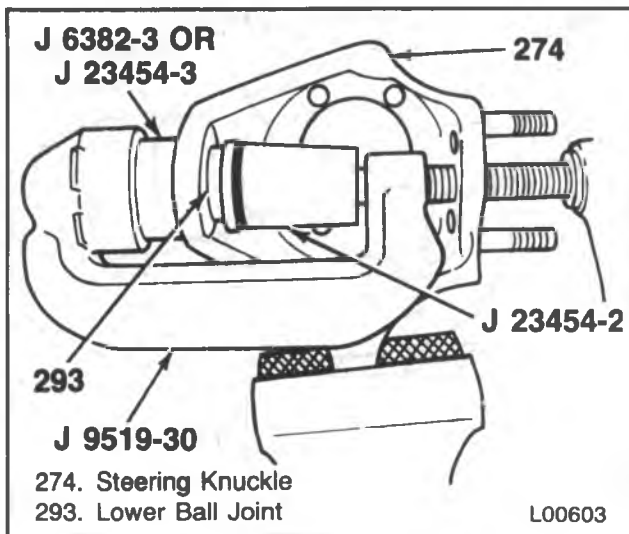
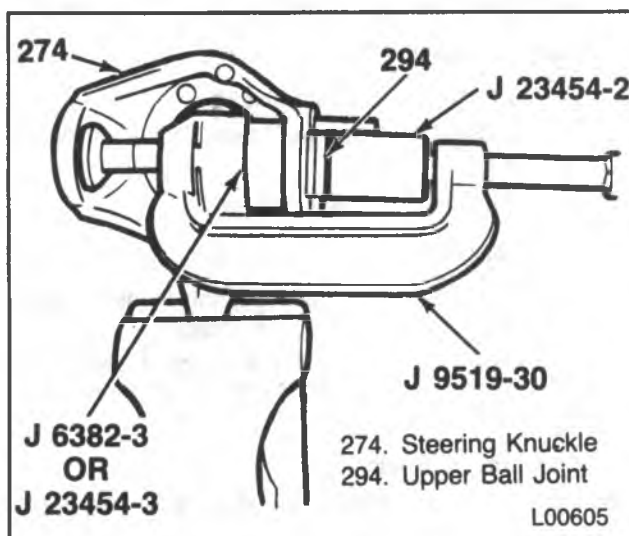

Figure 70 — Installing the Lower Ball Joint
Figure 71 — Installing the Upper Ball Joint
1. Lower ball joint (293) into the steering knuckle (274).
- Use J 9519-30, J 23454-2, and J 23454-3 or J 6382-3 (figure 70). Tighten until the ball joint fully seats.
3. Upper ball joint (294) into the steering knuckle (274).
- Use J 9519-30, J 23454-2, and J 23454-3 or J 6382-3 (figure 71). Tighten until the ball joint fully seats.